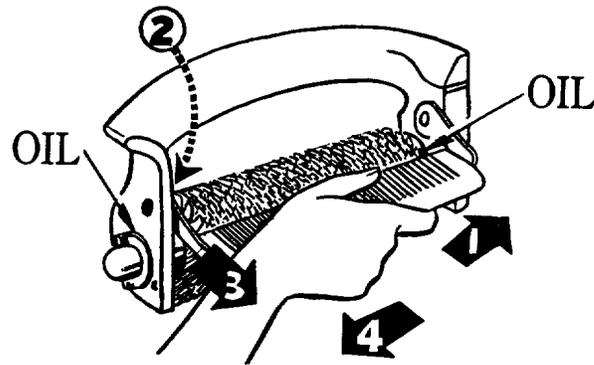

Figure 3
B.2.6.1 Push stripper in direction of arrow (1, Fig. 3) until stripper pivot screw (2, Fig. 3) clears hanger. Swing stripper in direction of arrow (3, Fig. 3). Remove by pulling in direction of arrow (4, Fig. 3). Remove meat from stripper by hand. Use the nylon brush (or cleaning fork) to loosen meat particles. Use hanger handle to hold roller assembly, thus avoiding contact with sharpened blades.